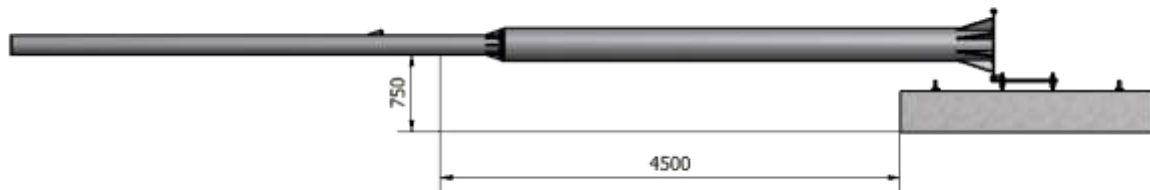

Figure 7 – Supporting the 2nd segment
3. Place the mast tripod or wooden pallets with a height of 0,75 m underneath the 2nd segment approximately 4,5 m from the foundation edge (see Figure 7).